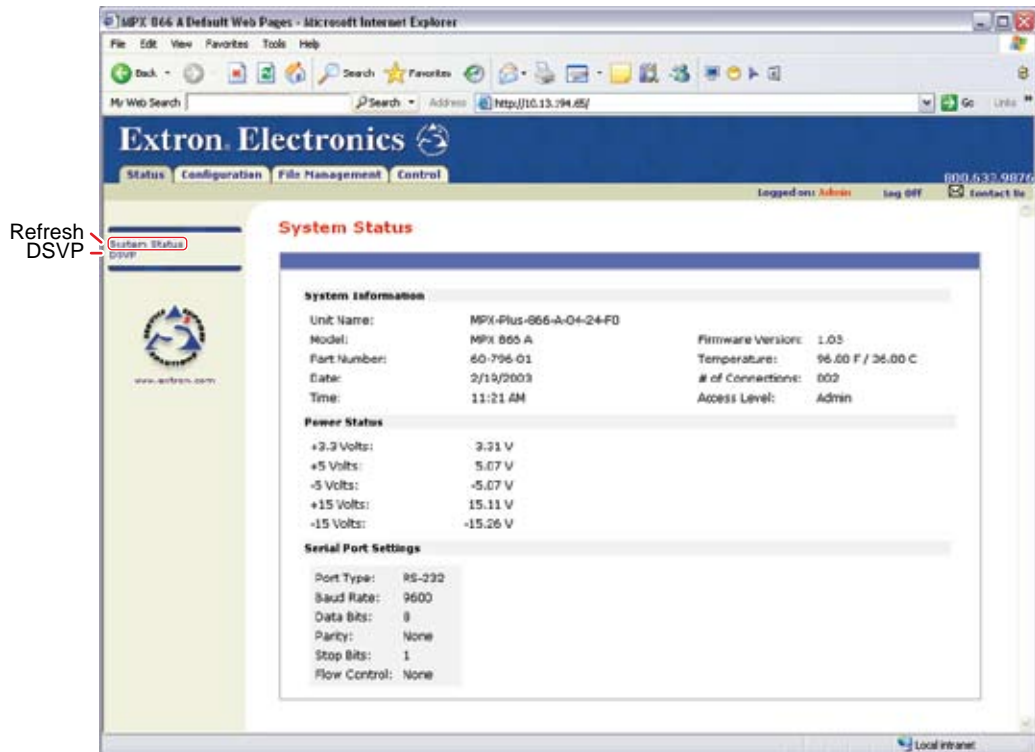

Figure 6-2 — System Status page
- c. **If neither of the above conditions is true**, the switcher downloads the factory-installed default startup page to the PC, “nortxe_index.html” (figure 6-2), also known as the System Status page.
The System Status page (figure 6-2) provides an overall view of the status of the matrix switcher, including the power supply status, the individual voltages, and the temperature. The System Status page is the default page that the switcher downloads to the PC when you connect to the switcher. Access the System Status page from other pages by clicking the **Status** tab.